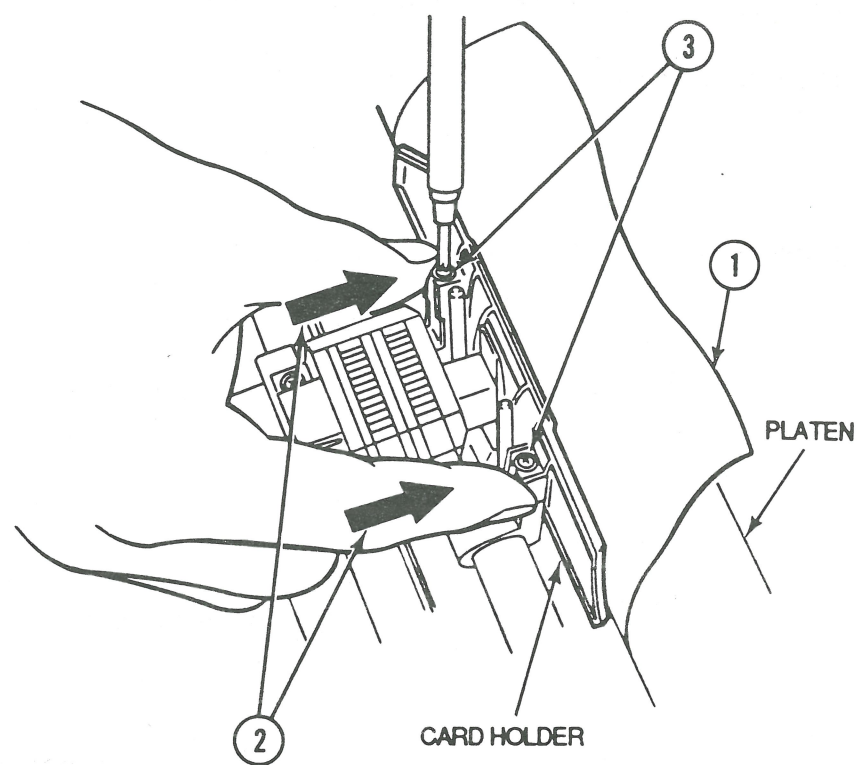

FIGURE 6
5. Roll the sheet of paper between the card guide and the platen (see Figure 6, #1).
6. Gently push forward on the card guide until it stops against the paper (see Figure 6, #2).
7. Tighten the two card guide set screws (Figure 6, #3) while holding the card guide in position.